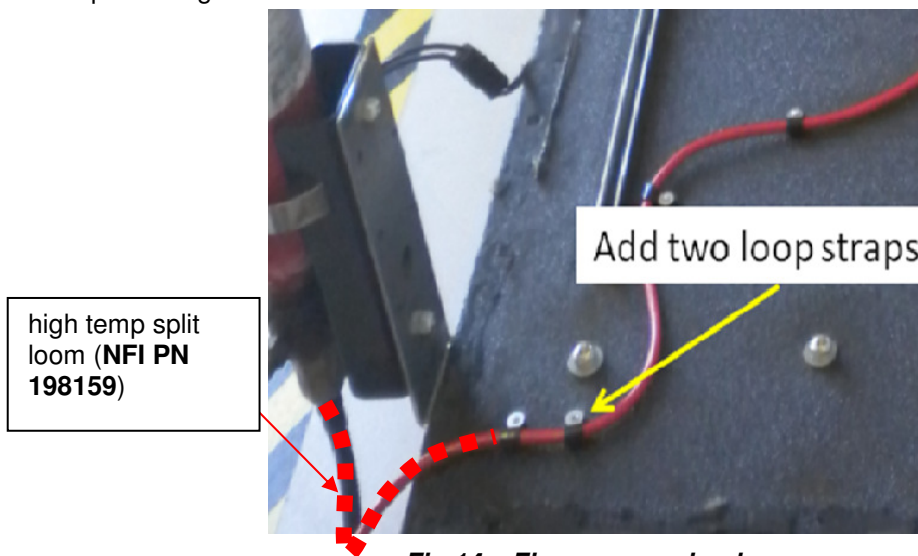

Fig 14 – Fire suppression loom
- q. Using high temp loom (NFI PN 198159), cover the suppressor line from the bottle to the first inboard clamp. See Fig 14